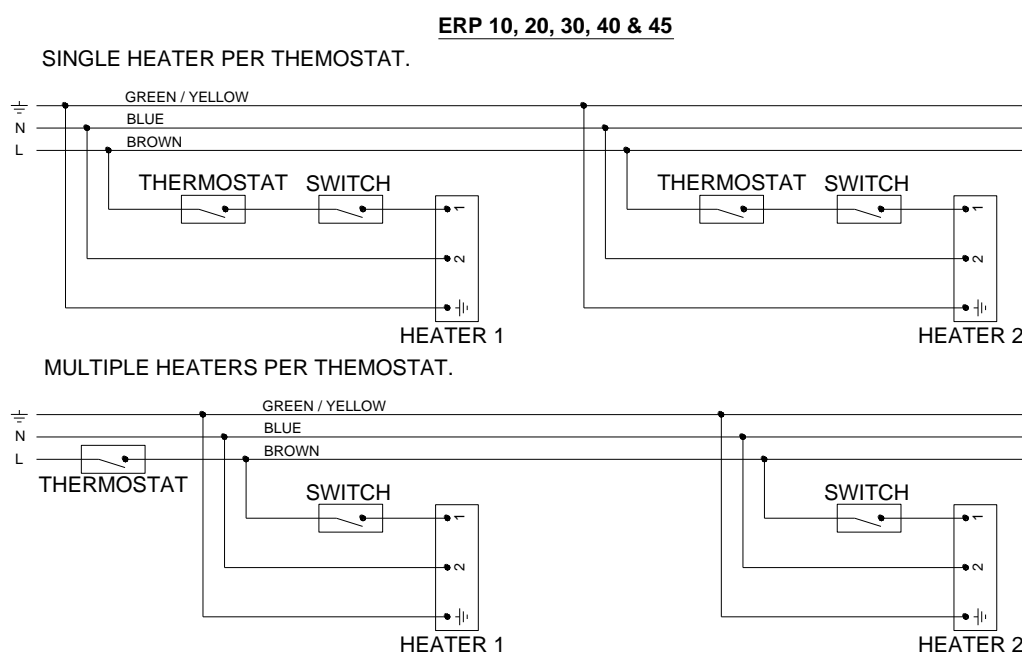

Fig. 3
- 3.3.2 Twin core and earth PVC covered flexible supply cable (0.5mm² - to National or Local standard specification) must be used, with connections made as shown in Fig. 3.